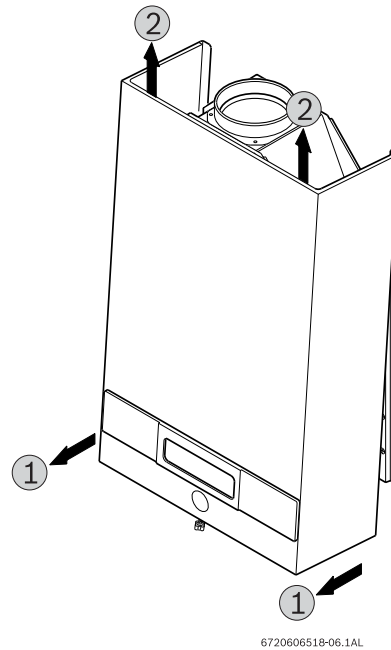

Fig. 6 Remove front cover
- ▶ Remove the outer cover by pulling it forwards and then lifting upwards, see Fig. 6.